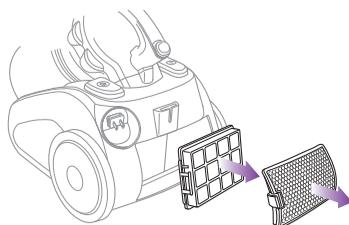

fig. 15
- 1 Remove the HEPA filter cover from the back of the vacuum by pulling up on the tab and pulling the cover away from the vacuum. (Fig. 15)